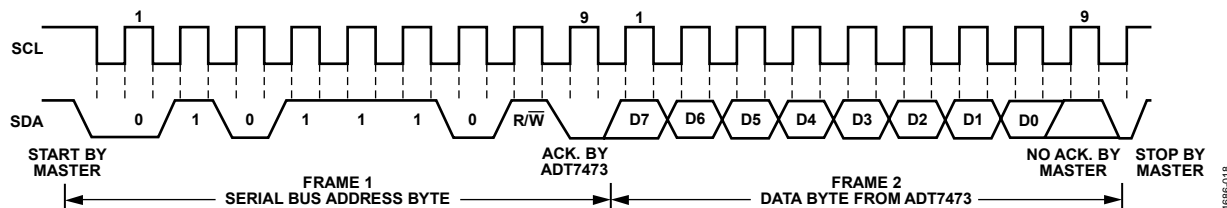

Figure 16. Reading Data from a Previously Selected Register
A read operation is then performed consisting of the serial bus address, $\overline{R/\overline{W}}$ bit set to 1, followed by the data byte read from the data register. This is shown in Figure 16.
- If the address pointer register is known to be already at the desired address, data can be read from the corresponding data register without first writing to the address pointer register, as shown in Figure 16.